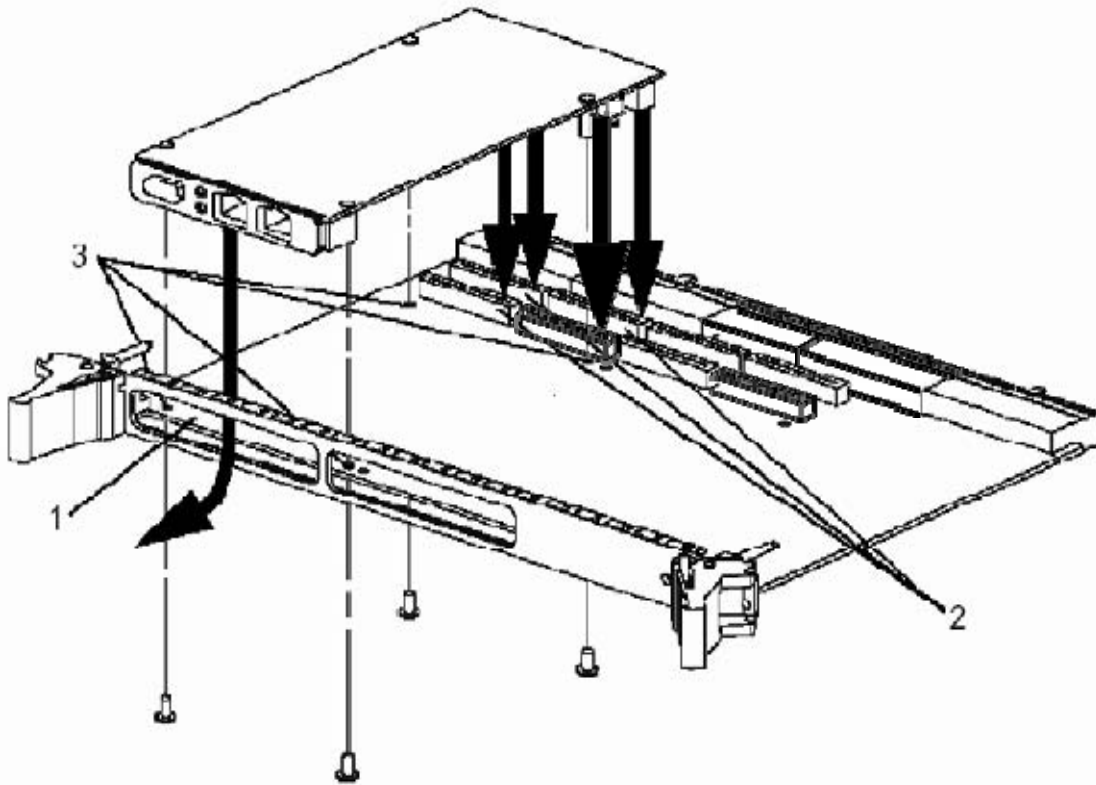

Figure B-5: Line PMC Module Installation
- g. Insert the bezel of the PMC into the cutout on the front panel of the ARTIC1000 (1) as shown in Figure B-5
- h. Engage the connectors (2), making sure they are seated completely
- i. Secure the four screws through the clearance holes (3) on the back side of the ARTIC1000
- e. Insert the bezel of the PMC into the cutout on the front panel of the ARTIC2000 (1) as shown in Figure B-5
- f. Engage the connectors (2), making sure they are seated completely
- g. Secure the four screws through the clearance holes (3) on the back side of the ARTIC2000